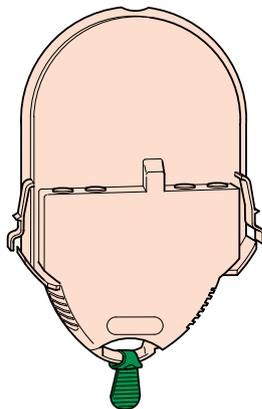

Figure 2. Pediatric-Pak
2. The optional Pediatric-Pak (pink color shown in Figure 2) for use on smaller children (from 1 to 8 years old and weighing under 55 lb/25 kg).